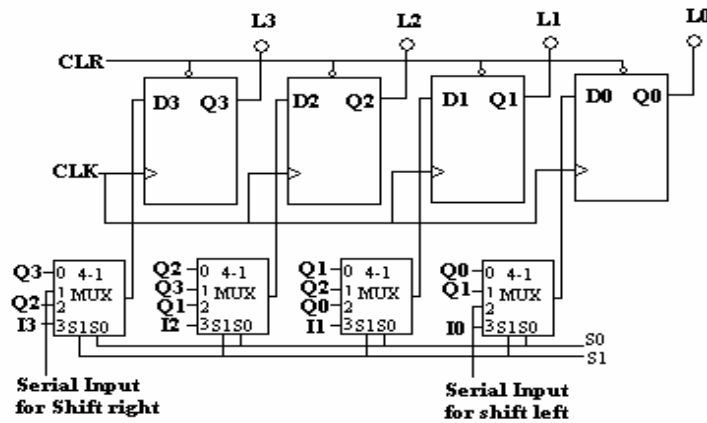

Figure 2: Register
- 4- Build carefully the circuit shown in Figure 2, record the outputs, and discuss its function and operation.
IC type of 6116 is a 2KX8 static RAM. Its pin assignment is shown in Figure 2. The address inputs select one of the words in the memory. The write enable \overline{WE} input determines the type of operation. The write operation is performed when $\overline{WE} = 0$. This is a transfer of the binary number from the data inputs into the selected word in memory.